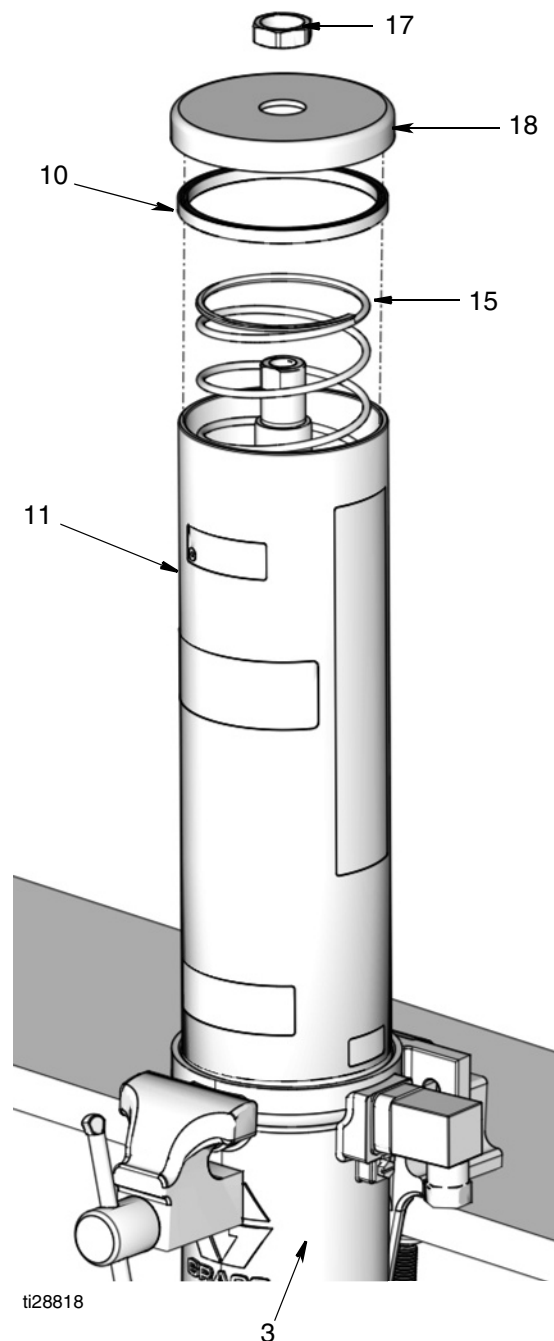

FIG. 39
19. Reservoir Gaskets (10)
Install reservoir gaskets (10) to top and bottom of reservoir (11) as shown in FIG. 39.
20. Install reservoir (11) in the air motor cylinder (3) (FIG. 39).
21. Install spring (15) inside reservoir (11) (FIG. 39).